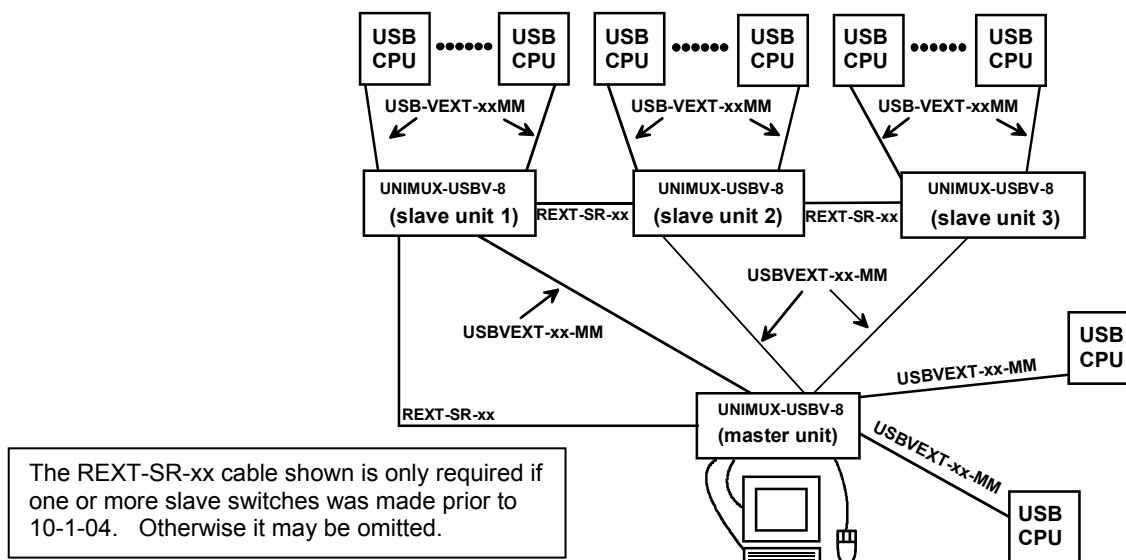
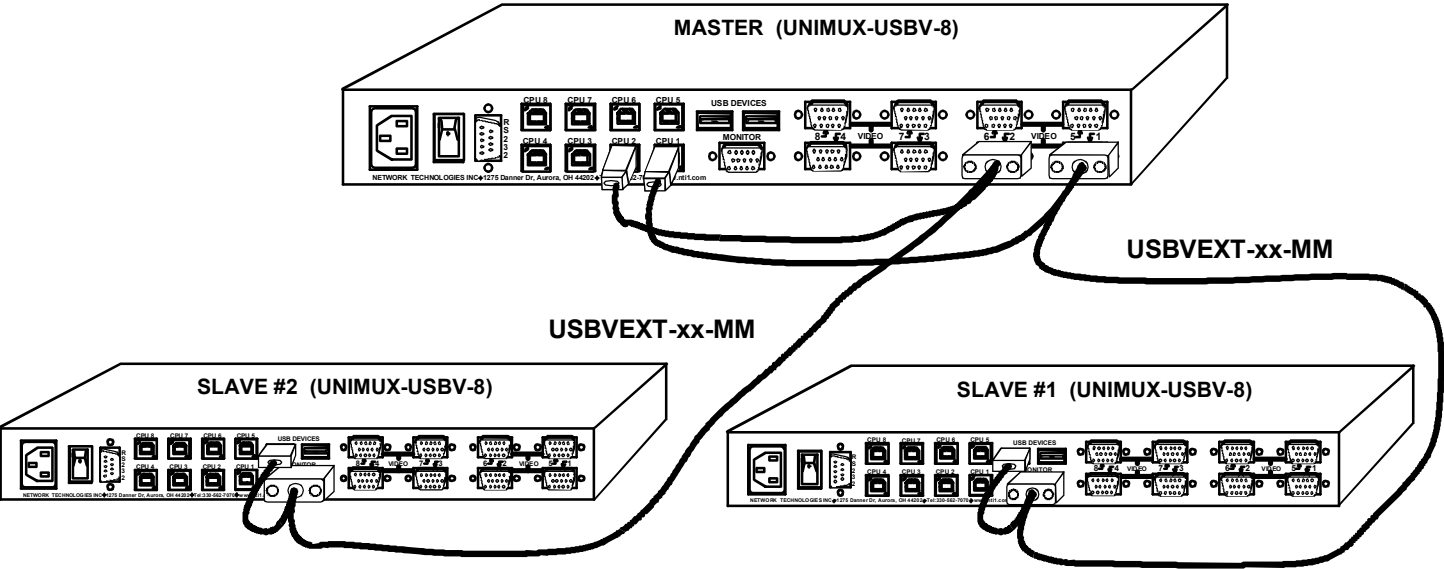

Figure 33- Connections for Cascading
Figure 35- Master-to-slave device cable connections- single-user switches
The UNIMUX-USBV-x USB KVM switch can be cascaded as shown in Fig. 33 below. Single user and multi-user UNIMUX switches may be connected downstream (see Figs.35 and 36). The first switch in a cascaded system is referred to as the "master", while all downstream switches are referred to as "slaves". The only additional hardware required to cascade switches is a set of device and monitor cables for each "SLAVE UNIT" (see MATERIALS on page 1). All CPUs and switches can then be controlled by users using OSD commands with Command Mode.
- **If the UNIMUX-USBV-x is connected in a cascaded system with earlier UNIMUX-USBV-x switches (products made prior to 10-1-04), then the DIP switches must be configured as indicated on page 34 and REXT-SR-xx cables must be used as shown in figure 33.**
- Repeat step b. & c. for each additional slave, keeping in mind that each slave will connect to the next available master's port (i.e. Slave #2 to master's VIDEO 2 & CPU 2, etc.) See Fig. 35 on page 35.